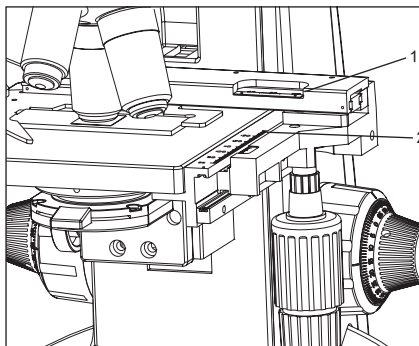

Fig. 18
1. The horizontal coordinate can be read at position (1) on the specimen holder (fig.18).
2. The vertical coordinate can be read at the index line (2).